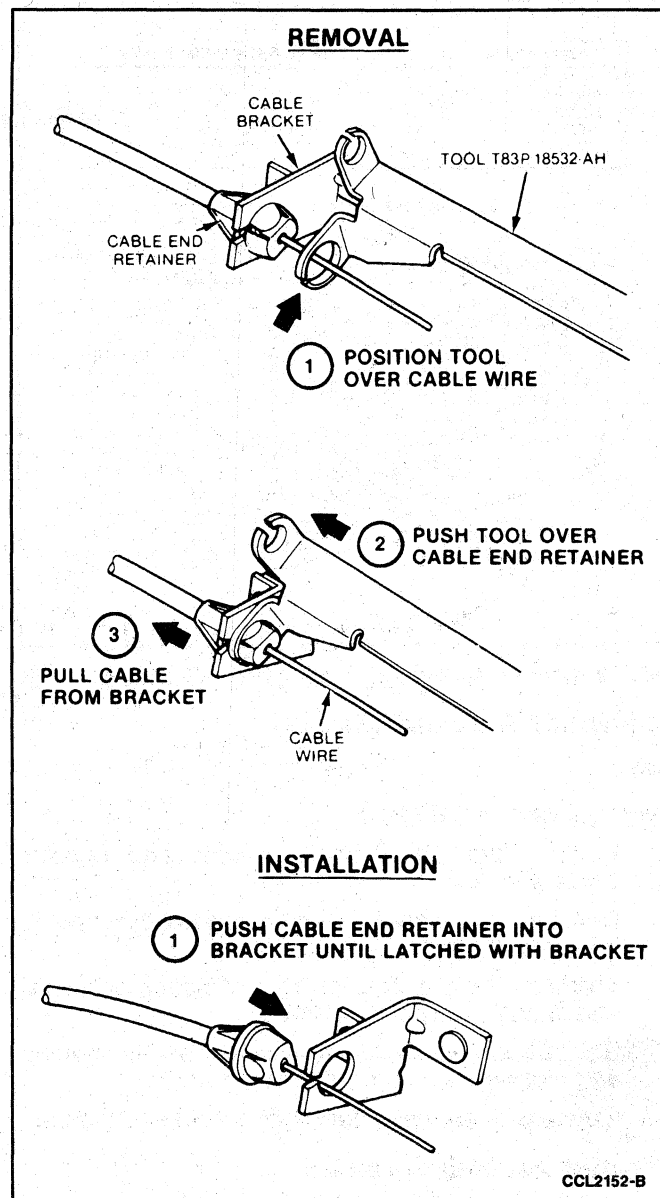

FIG. 21 Control Cable End Retainer Attachment
3. Rotate temperature control knob to COOL position and disconnect the temperature control cable housing end retainer from heater case bracket using Heater Control Cable Disconnect Tool T83P-18532-AH (Fig. 21). Disconnect cable wire from temperature door crank arm.
5. Disconnect cable housing end retainer from control assembly (Fig. 21) and cable wire from temperature control lever arm.